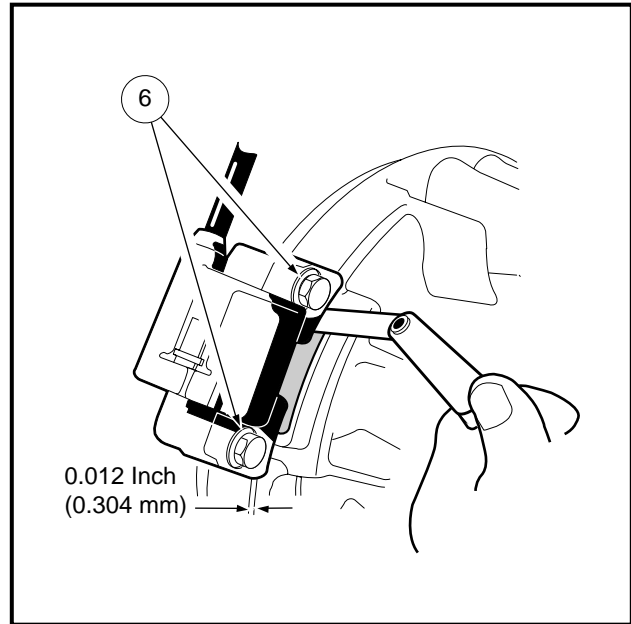

Figure 12-29 Mount Ignition Coil Using Feeler Gauge
4. Remove the grommet (4) from the old spark plug wire. Clean the grommet and place it on the new spark plug wire (5).
8. Install the gasket (1) on the cap (2).
9. Position the ignition coil (7) onto the cast mounting bosses on the engine crankcase and tighten the two mounting bolts (6) to finger tight at this time.
10. Rotate the flywheel (8) until the magnet is positioned directly under the ignition coil. Use a 0.012" (0.304 mm) bronze feeler gauge to set the air gap between the ignition coil and the flywheel magnet. Tighten the two mounting bolts (6) to 30 in-lb (3.4 N·m) **(Figure 12-29, Page 12-27)**.